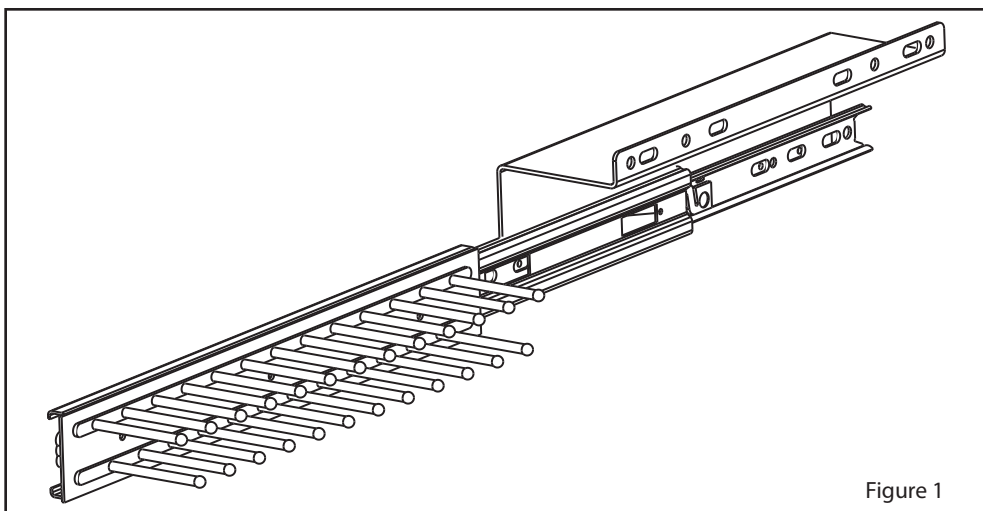

Figure 1
1. Install tie or belt rack to the Reverse Mounting Bracket. Use the included M4 machine screws as shown in Figure 1.